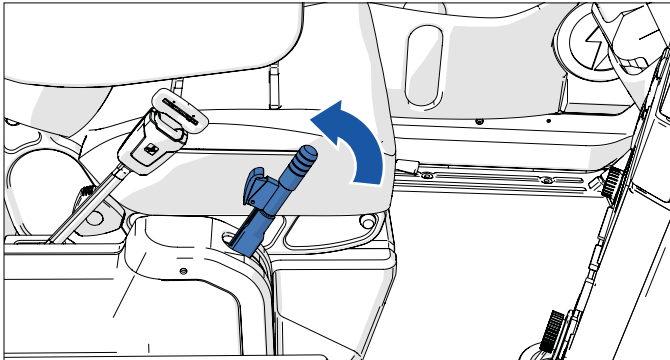

Figure 4 - Parking brake
- Use the lever on the right side of the seat (**Figure 4**)